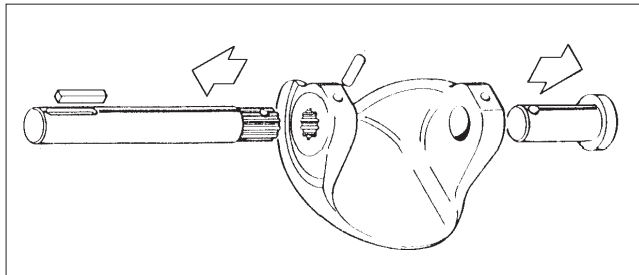

Fig. 23 Removing the shafts
- Detach the gland packings (20).
- Remove the shafts (11 and 12), Fig. 23.